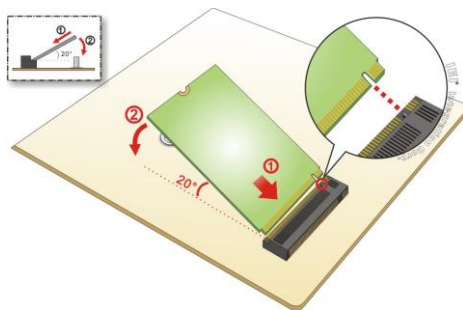

Figure 3-6: Inserting the WLAN Module
Step 3: Line up the notch on the WLAN module with the notch on the slot. Slide the WLAN module into the slot at an angle of about 20° (Figure 3-6).